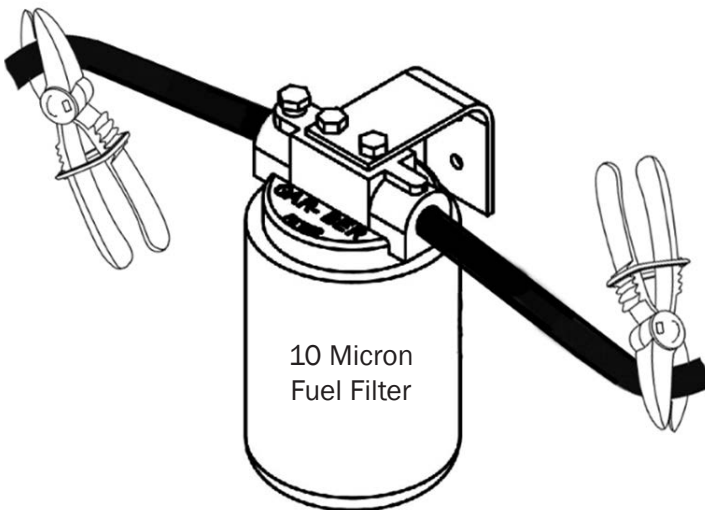

Figure 131
2. Using hose pinch off pliers, clamp off both fuel lines going to the fuel filter. Reference Figure 131.